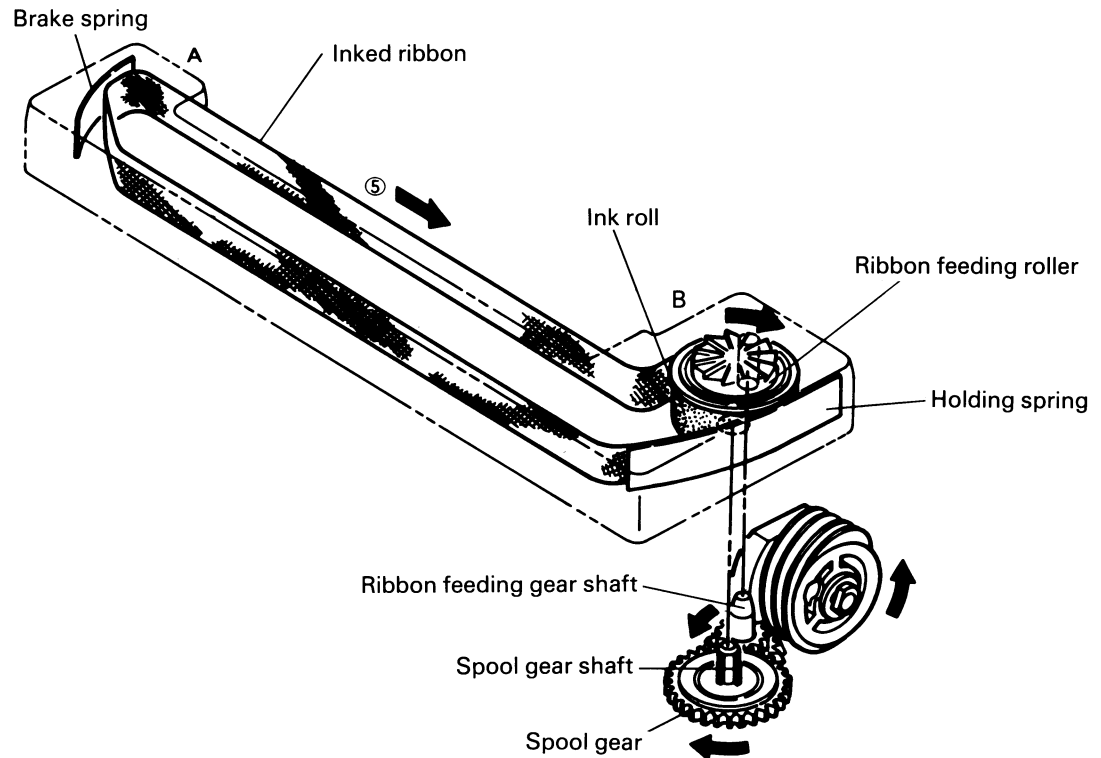

**Fig. 3-55 Return Phase**
② Return phase
Referring to Fig. 3-54, the paper feeding gear rotates in direction ④ when the paper feeding lever moves in direction B. At this moment, the paper feeding transmission gear is prevented from rotating by the one-way spring placed on the paper feeding roller shaft and it goes out of mesh with the paper feeding gear (see Fig. 3-55).